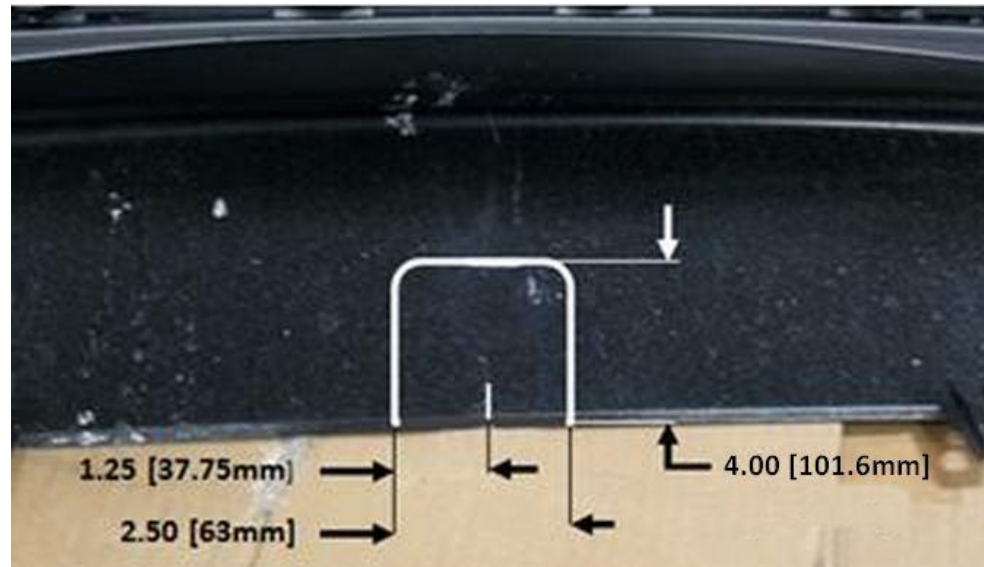

Figure 3
9. Trim fascia: using the center of the fascia marked in step 1. 2.50 x 4.00 off center mark. Use drill to create radius. See **Figure 3**.